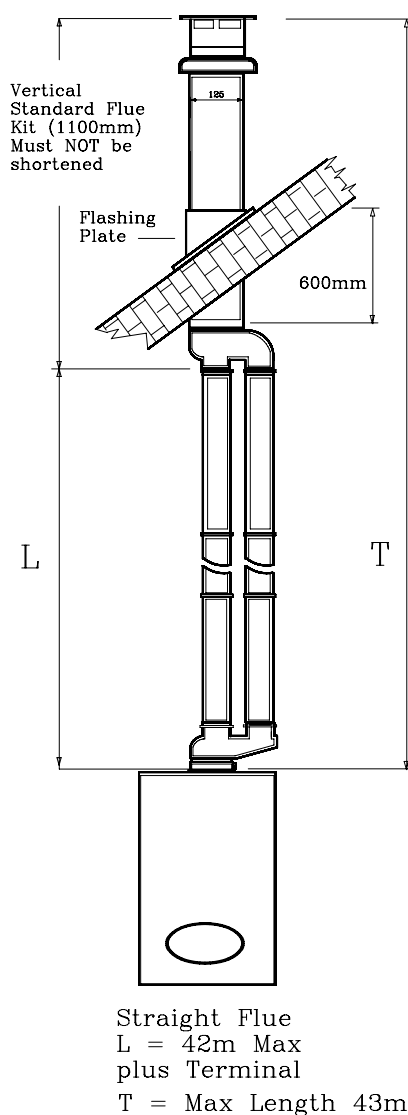

Fig. 25
5.8.2 Exhaust/suction system with concentric pipes for flat or sloping roofs. Extensions with two separate pipes (Fig. 25).